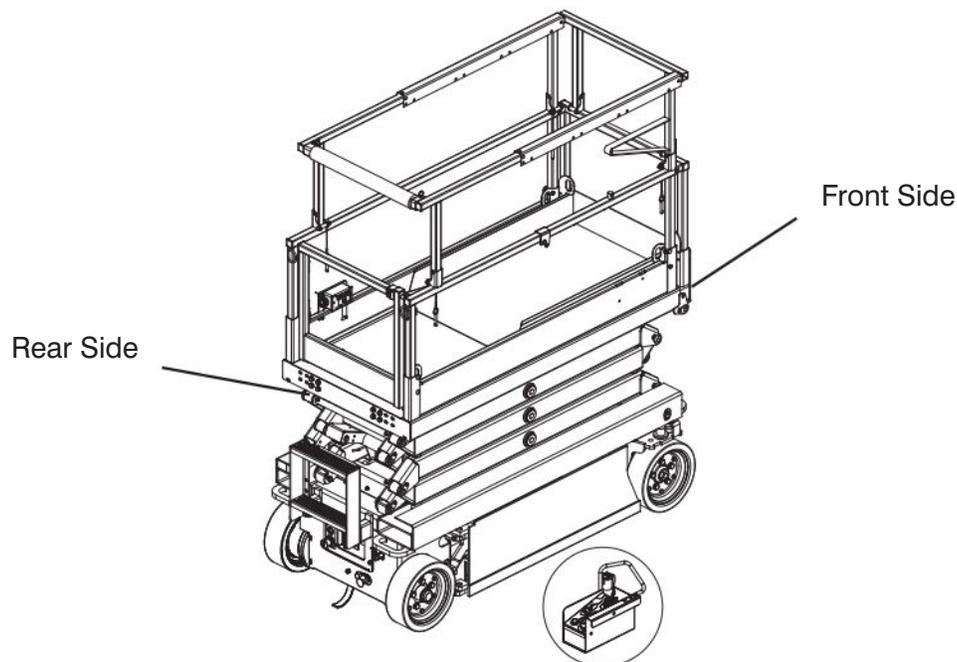

Figure 3-10. Control Box with Long Cable Outside Platform
- **Ensure the operator and control box console are properly oriented in the direction the aerial platform is facing (see Figure 3-10).**